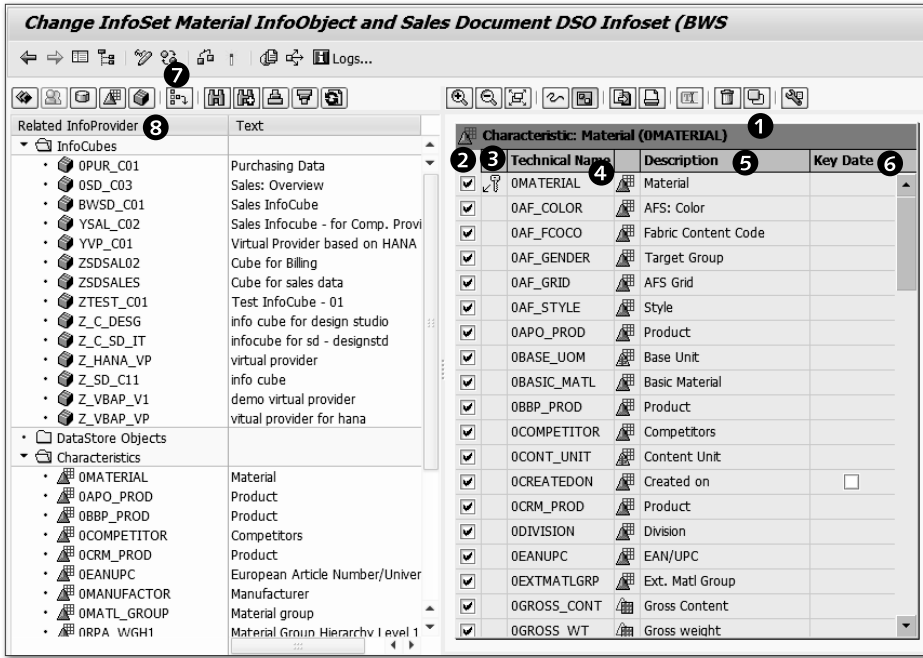
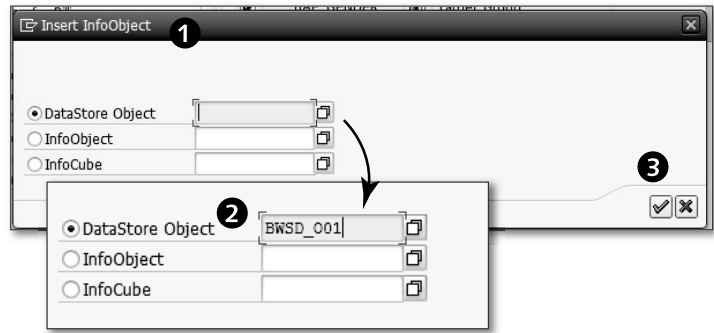

Figure 6.21 Understanding the Initial Screen
Figure 6.22 Inserting a Second Source
The START WITH INFOPROVIDER area allows you to supply the technical name of the first source you want to include in the definition of InfoSet BWSD_IS1. In our example, we want to include an InfoSet based on InfoObject OMATERIAL and DSO BWSD_O01. Select the INFOOBJECT radio button, and enter the name of the InfoObject "Omaterial" ⑥. Now click on the CONTINUE icon ⑦. The resulting screen is shown in Figure 6.21.
InfoObject OMATERIAL is included as part of InfoSet BWSD_IS1. SAP BW internally allocates the number T00001 to the first object that is included in this definition (see ① of Figure 6.21). For the subsequent objects you include, it gives the number T00002, and so on.
Not all columns have titles, so we've numbered them to explain their significance. Column 2 of Figure 6.21 allows you to decide whether you want to include particular attributes of the 0MATERIAL InfoObject in the final definition of the InfoSet. By default, SAP BW includes all of the attributes. Column 3 indicates whether the particular InfoObject is a key. For example, InfoObject 0MATERIAL is the key for InfoObject 0MATERIAL; for a DSO, all of the key fields are indicated as a key with a key icon . Columns 4 and 5 indicate the technical name and description of the attributes, respectively. Column 6 indicates whether the field is included or excluded while defining the result for a temporal join. The checkbox is only shown when the field is a date field; for example, for field 0CREATEDON, the checkbox is shown, which is a date field.
Now you're ready to include your next source in the definition of InfoSet BWSD_IS1. Select the INSERT INFOPROVIDER icon , as shown in 7 of Figure 6.21. The INSERT INFOOBJECT pop-up box appears, as shown in 1 of Figure 6.22. Three choices (DATASTORE OBJECT, INFOOBJECT, and INFOCUBE) are available as InfoSet definitions and can include either of the objects. Our example InfoSet is based on InfoObject 0MATERIAL and DSO BWSD_001.
Next, select the DATASTORE OBJECT radio button (if not selected already), and enter the technical name "BWSD_001," as shown in 2 of Figure 6.22. Now click on the CONTINUE icon .